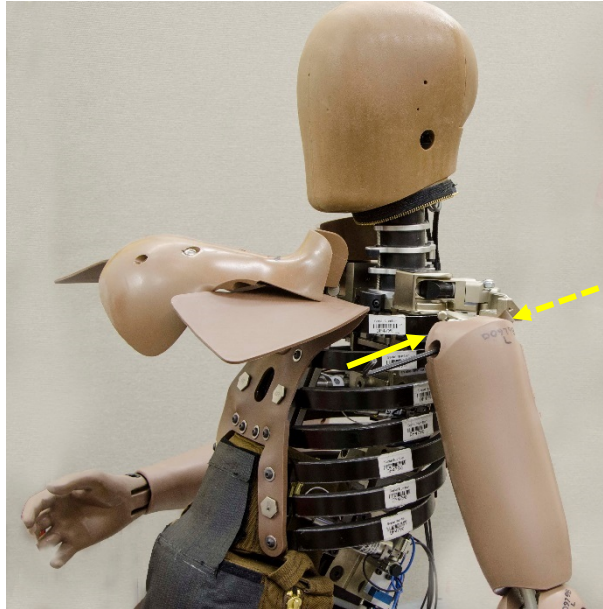

Figure 7-21. Upper arm orientation for setting joint torque about shoulder X-axis to 1G
- 7.3.1.2 Locate the M10 x 20mm SHSS attaching the left upper humerus assembly (472-6200) to the arm clevis (472-3831). This screw may be located through either the anterior or posterior hole in the upper arm flesh (472-6270), as indicated in (Figure 7-21). With the elbow bent at 90°, rotate upper arm about the X-axis shoulder joint until the arm is in the horizontal plane. Adjust the torque of the M10 bolt such that the arm remains in this position under its own mass but falls once any additional mass or force is added. Repeat for right arm.